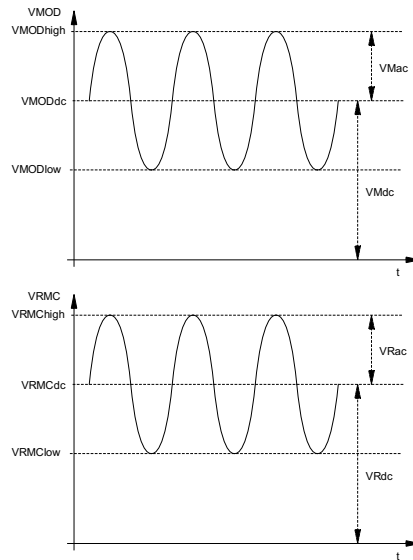

Figure 17: Example of modulation voltages
2. Set a reference value of voltage in V(MOD). For example a low voltage or a DC voltage (VMODdc) in a sinus signal as shown in figure 17.